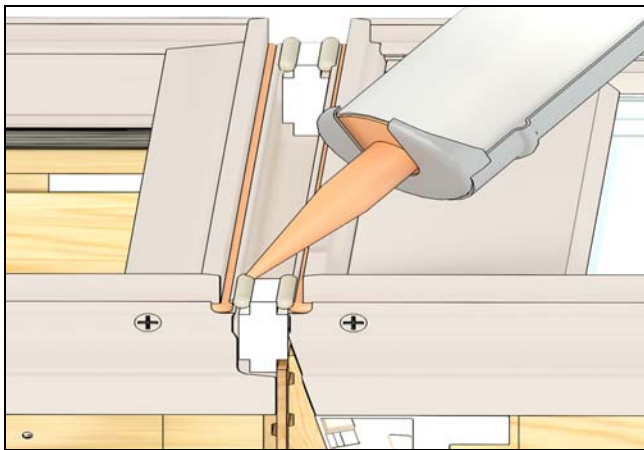

Figure 21
9. Apply a bead of sealant along both sides of foam filler. Sealant should run the entire length both blocks on either side. See Figure 21.